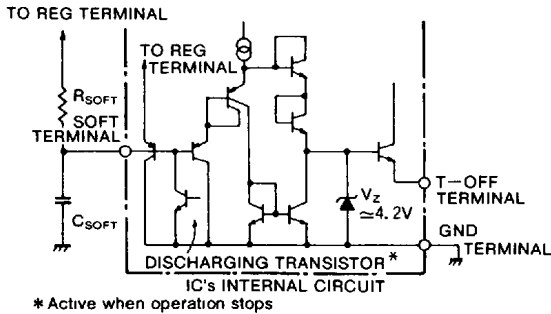

Fig.6 Circuit diagram of SOFT terminal section and T-OFF terminal section
- ① It is ideal for primary control as IC driving current is supplied from the third winding of the main transformer at the start-up because constant ON duration is obtained from start-up.
- ② It is possible to get a wide dynamic range for ON/OFF ratio by pulse-by-pulse current limit circuit
- ③ The response characteristics at power-on is not affected by input voltage as the pulse-by-pulse limit current value is not affected by the input voltage.
Fig. 6 shows the circuit diagram of the soft start. If SOFT terminal voltage is low, T-OFF terminal voltage becomes low and V_{T-OFF} in equations (3) and (4) become low.